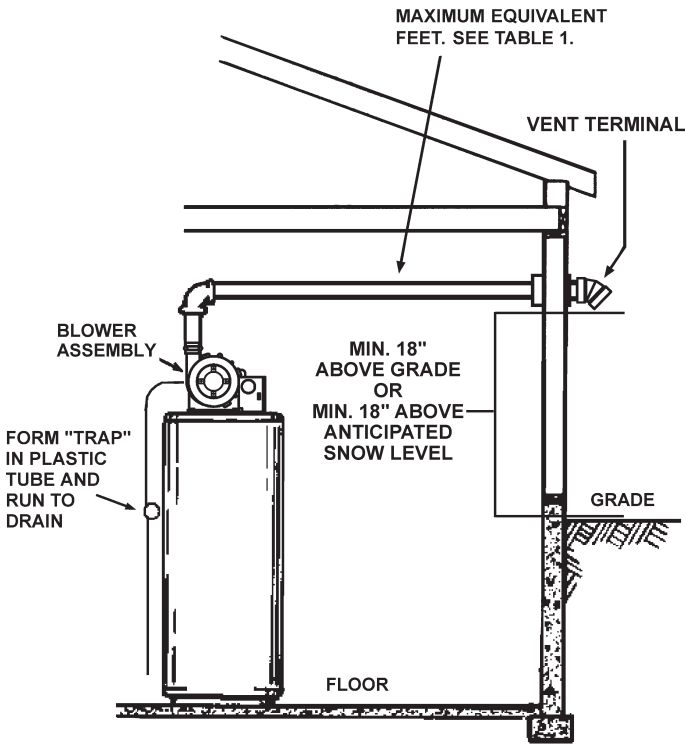
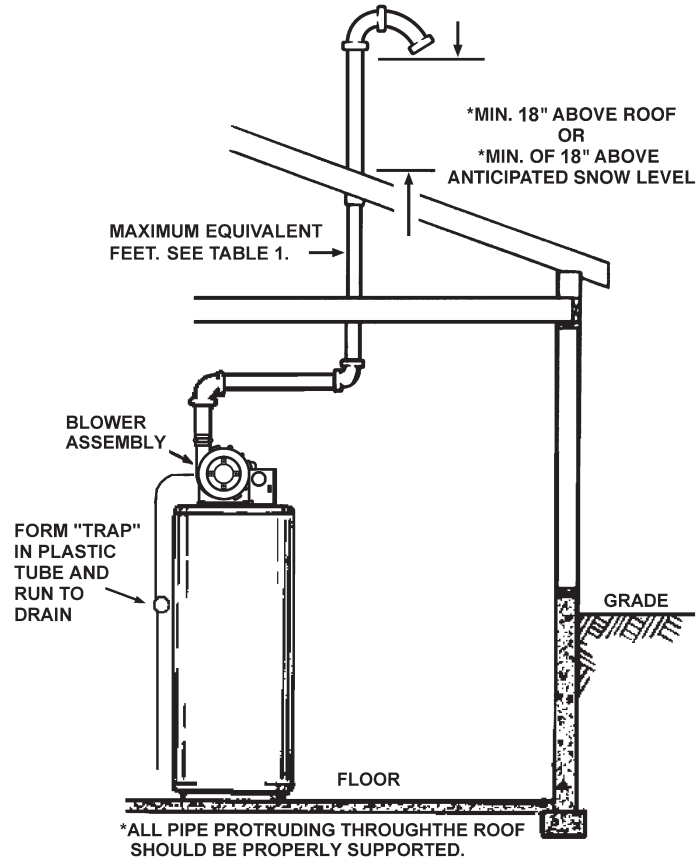

FIGURE 19.
FIGURE 20.
The first step is to determine where the vent pipe will terminate, see Figures 15, 19 and 20. The vent may terminate through the roof as shown in Figure 20 or through a sidewall as shown in Figure 19.
The water heater must be connected to a grounded metal, permanent wiring system; or an equipment grounding conductor must be run with the circuit conductors and connected to the equipment grounding terminal or lead on the water heater, see Figure 19.
1. Vent Termination must extend a minimum of 18 inches (46 cm) above roof or 18 inches (46 cm) above the anticipated snow level to prevent blockage of the vent termination, as shown in Figures 19 and 20.
2. The venting system should terminate at least four (4) feet (1.2 m) from or one (1) foot (30 cm) above any gable, dormer or other roof structure with building interior access; i.e., vent, window, etc.
3. The venting system should terminate three (3) feet (91 cm) above any forced air inlet located within ten feet (3.0 m).